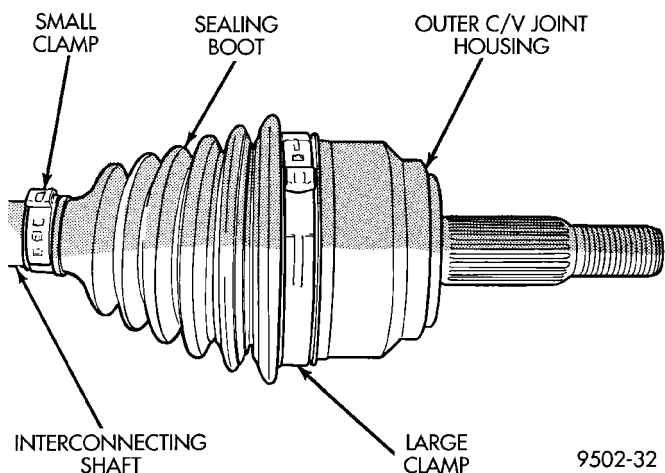

Fig. 44 Outer C/V Joint Seal Boot Clamps
(2) Remove large boot clamp retaining C/V joint sealing boot to C/V joint housing (Fig. 44) and discard. Remove small clamp that retains outer C/V joint sealing boot to interconnecting shaft and discard. Remove sealing boot from outer C/V joint housing and slide it down interconnecting shaft.